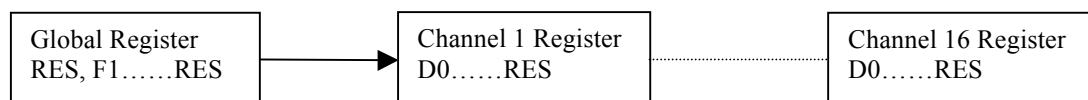

Figure 1 Shift Register Loading
- Figure 1 shows the order that the shift register is loaded from global to channel.